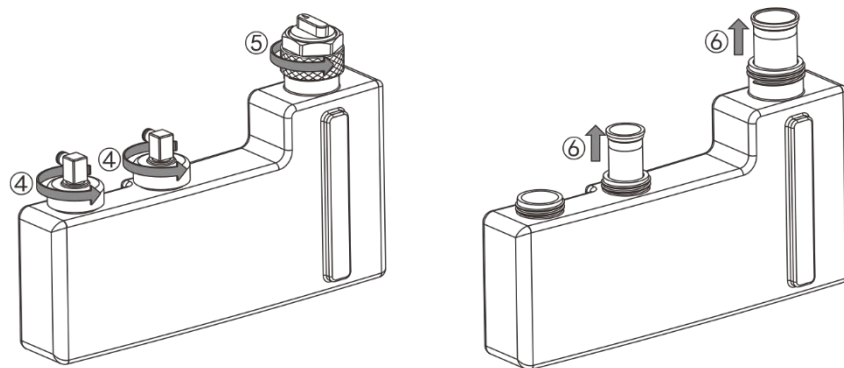

Figure 34 Reservoir Assembly Maintenance
2. Maintenance and maintenance of the liquid storage tank, as shown in Figure 34.